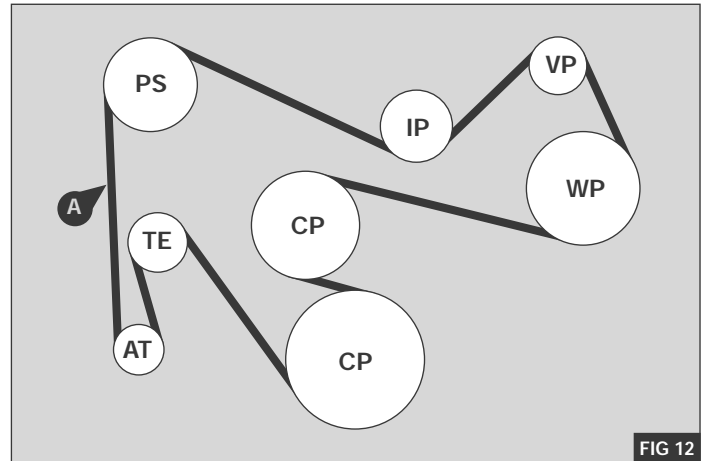

FIG 12
2. Fit the compressor to the previously fitted mount bracket assembly (1) using bolt (3.4) with Schnorr safety washer (3.5) and flat washer (3.6) and Dulok nut (3.3) then secure with bolts (3.2) - Fig 12